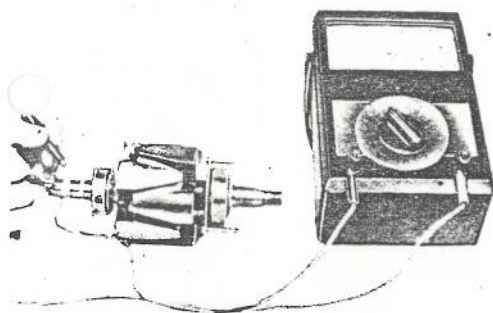

Fig. 10-131
5) Measure the resistance of the field coil by holding tester nozzles right against the slip rings. The resistance of the field coil may be regarded as normal if the measured value is between 4-5 ohms. If the value is lower than 4 ohms, the trouble may be attributed to internal short-circuit. Greater resistance may be provided if the field coil is disconnected. (Fig. 10-131)